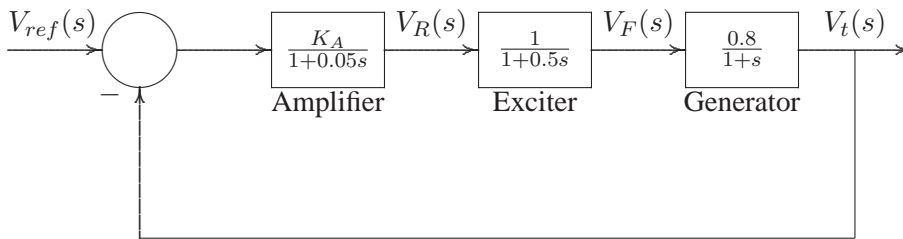

FIGURE 99
12.9. A generating unit has a simplified linearized AVR system as shown in Figure 99.
The open-loop transfer function of the AVR system shown in Figure 99 is
(c) The closed-loop transfer function of the system shown in Figure 99 for $K_A = 40$ is
(d) Construct a *SIMULINK* block diagram model for Figure 99, and simulate to obtain the response (**sim12p9.mdl**).